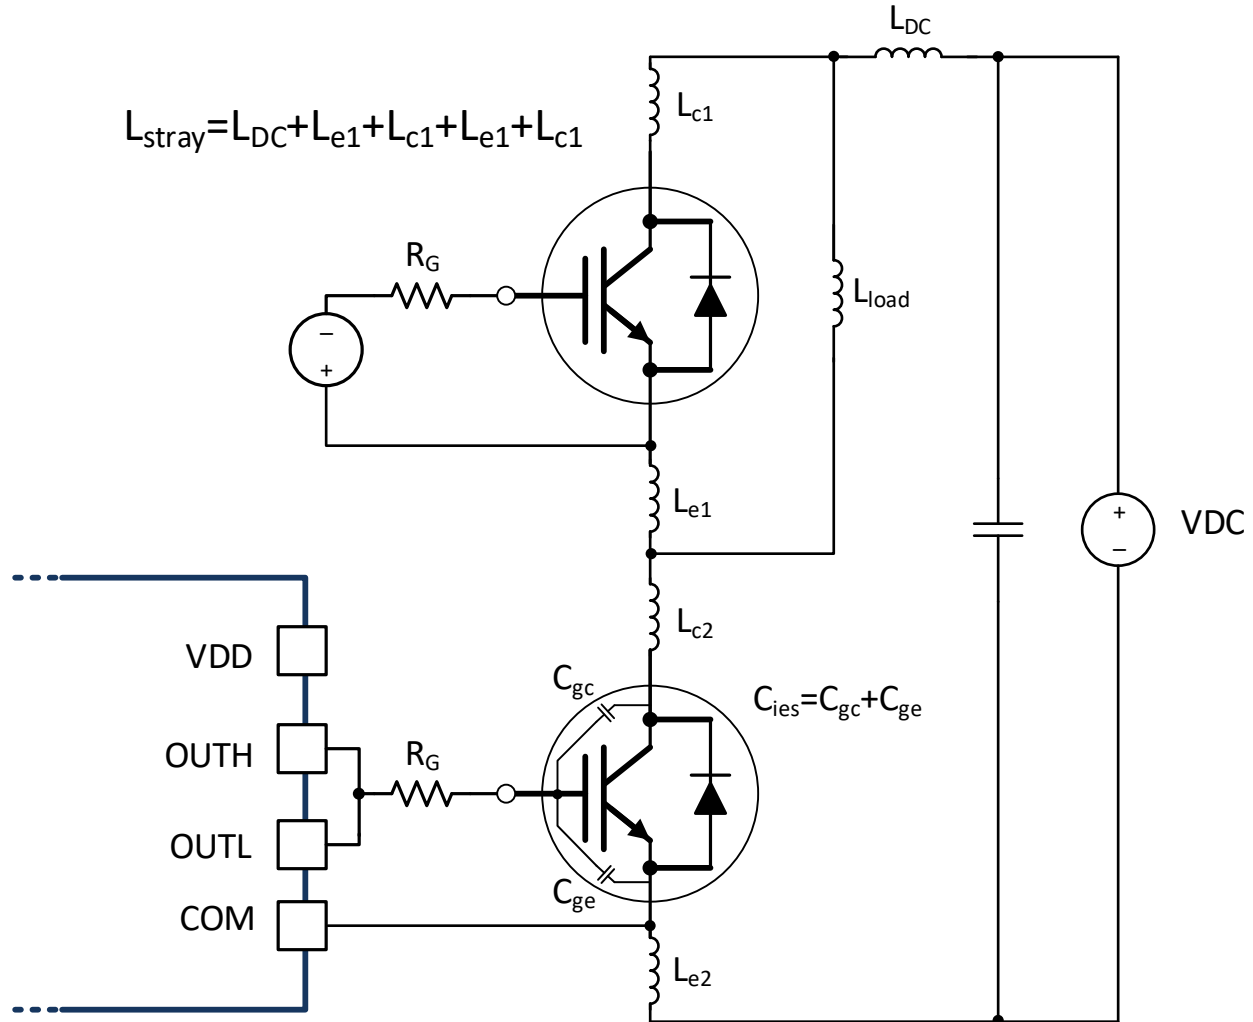

図 9-6. Stray Parasitic Inductance of IGBTs in a Half-Bridge Configuration
- L_{stray} is the stray inductance in power switching loop, as shown in FIG 9-6